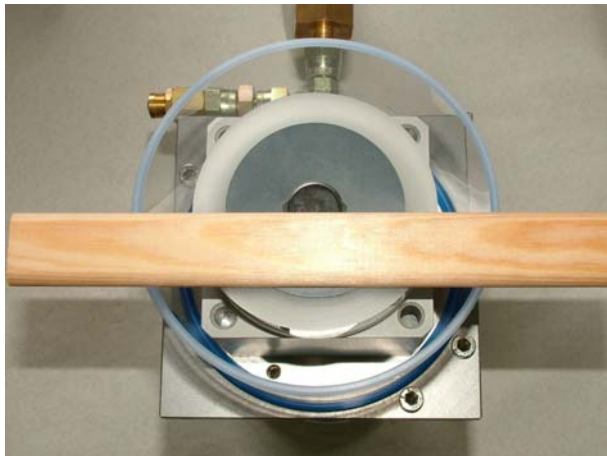

Fig. 9: Positioning the circular grommet
- Fit the circular grommet and, with the help of a ruler placed on the heat casing, position it parallel to the cylinder (see Fig. 9, the semicircular holes should then be below the valve openings).